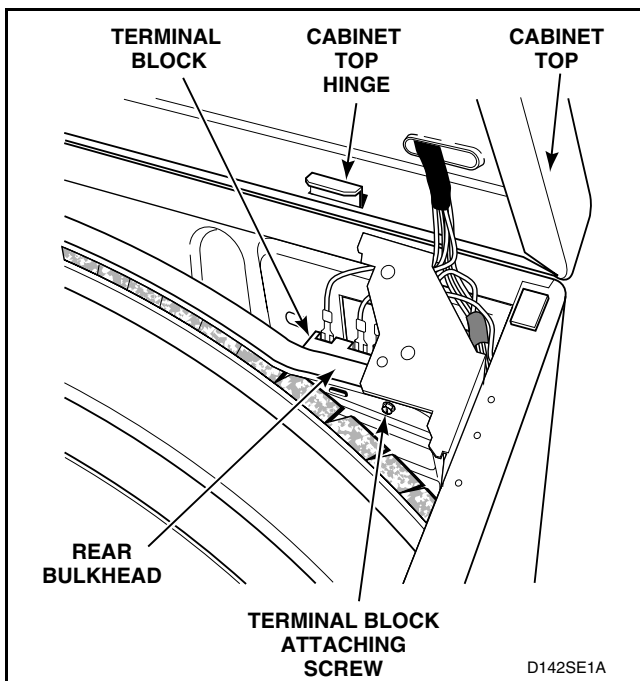

Figure 57
- (6) Lift cabinet top to a vertical position by hinging it on the rear hinges. Refer to *Figure 57*.
- (7) Remove all wires from terminal block. (Refer to appropriate wiring diagram when rewiring terminal block.)
- (8) Remove screw holding terminal block to rear bulkhead. Refer to *Figure 57*.
- j. Lift cabinet top to a vertical position by hinging it on the rear hinges. Refer to *Figure 57*.
- s. Remove two screws from each rear hinge. Refer to *Figure 57*.